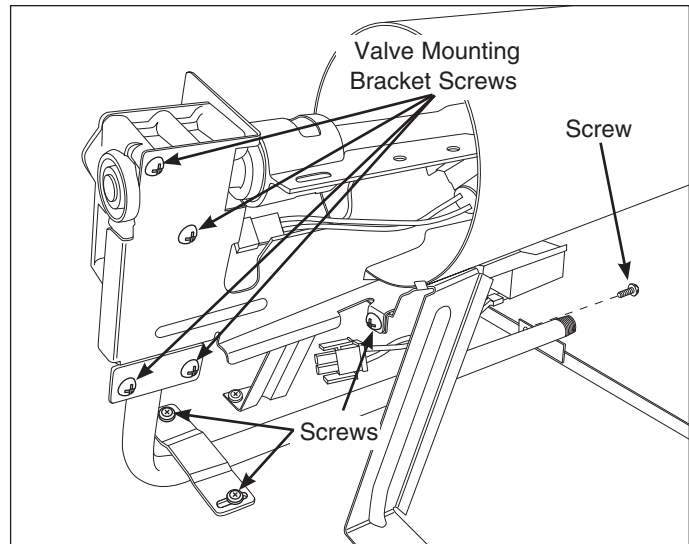

Figure 4-52.
2. Disconnect all electrical connections from gas valve, coils, ignitor and wire harness. (See Figure 4-52)
3. Using a #2 square bit screwdriver, extract the screw from the rear of the unit base securing the manifold mount to the unit base. (See Figure 4-52)
4. Extract the two screws from the manifold mount located beneath the combustion tube. (See Figure 4-52)
5. Extract the screw from the bent down tab at the entrance of the combustion tube. (See Figure 4-52)
8. Extract the four screws securing the gas valve mounting bracket to the gas valve and manifold. Remove the gas valve mounting bracket from the assembly. (See Figure 4-52)